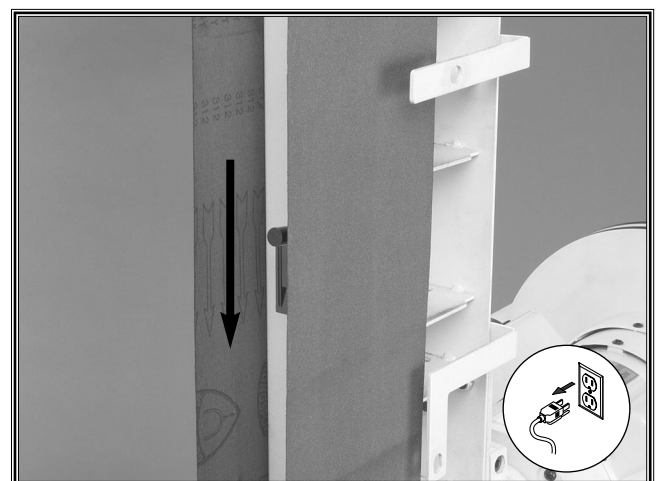

Figure 25. Installing a new sanding belt.
6. Install a new belt with the arrows in the proper direction as shown in Figure 25.